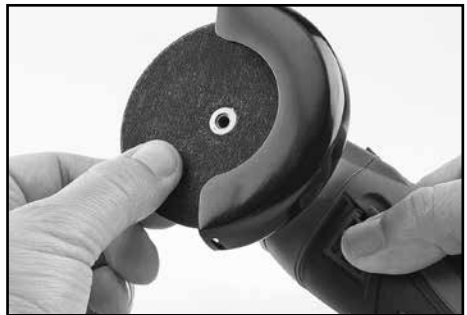

FIG.2
8.2 MOUNTING CUTTING DISCS – FIGS.2 – 4
- Press and hold the spindle lock button (7).
- Loosen the locking flange (6) anti-clockwise using the hex. key (8) supplied.
- Securely tighten the locking flange clockwise using the hex. key (8) while holding down the spindle lock button (7).